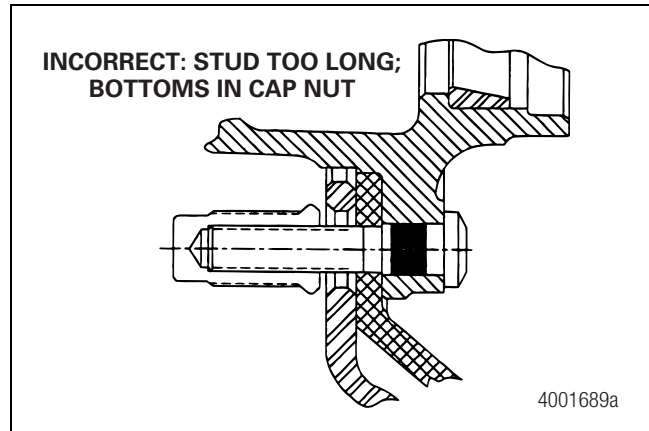
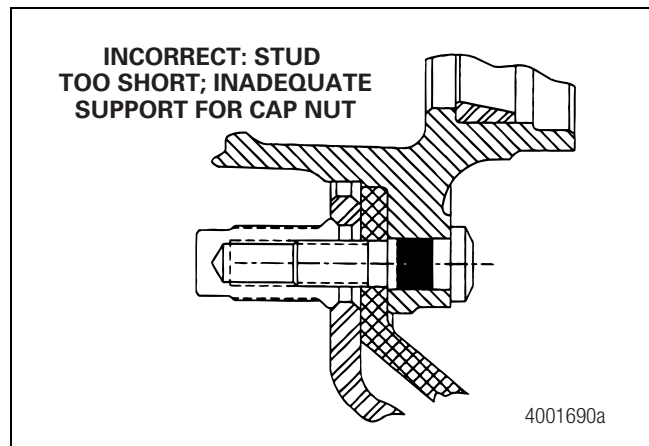

Figure 13.37
Figure 13.38
- B. Figure 13.37 and Figure 13.38 show incorrect standout.